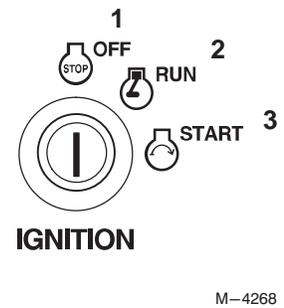

Figure 18
6. Turn ignition key to “START” to energize starter. When engine starts, release key (Fig. 18).
2. Turn the ignition key to “OFF” and remove (Fig. 18).